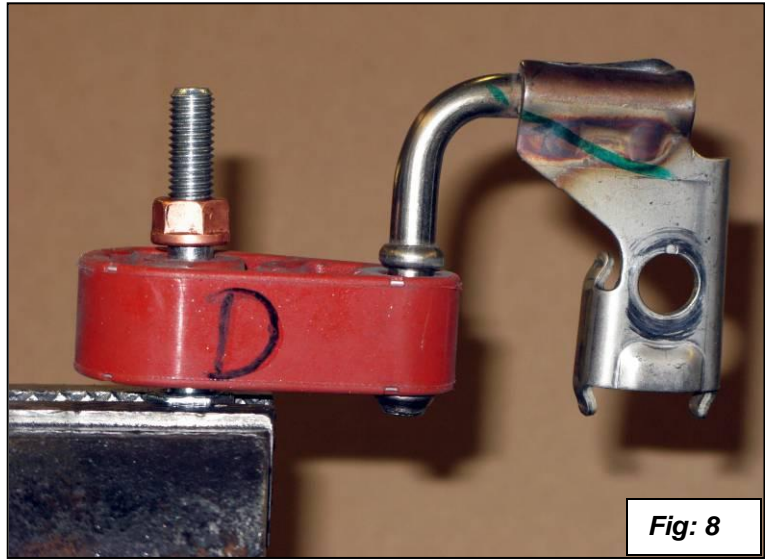

Fig: 8
12. Remove the front rubber hangers with mount from the stock mufflers by pulling them off the wire hangers on the muffler. Insert the 10mm x 65mm bolt as shown. Clamp in a vise and run a 10mm copper locknut down to the bottom of the threads. Install onto the front brackets on the mufflers and install the second copper locknut with a washer on both sides of the bracket and tighten. See figures 8 and 9.